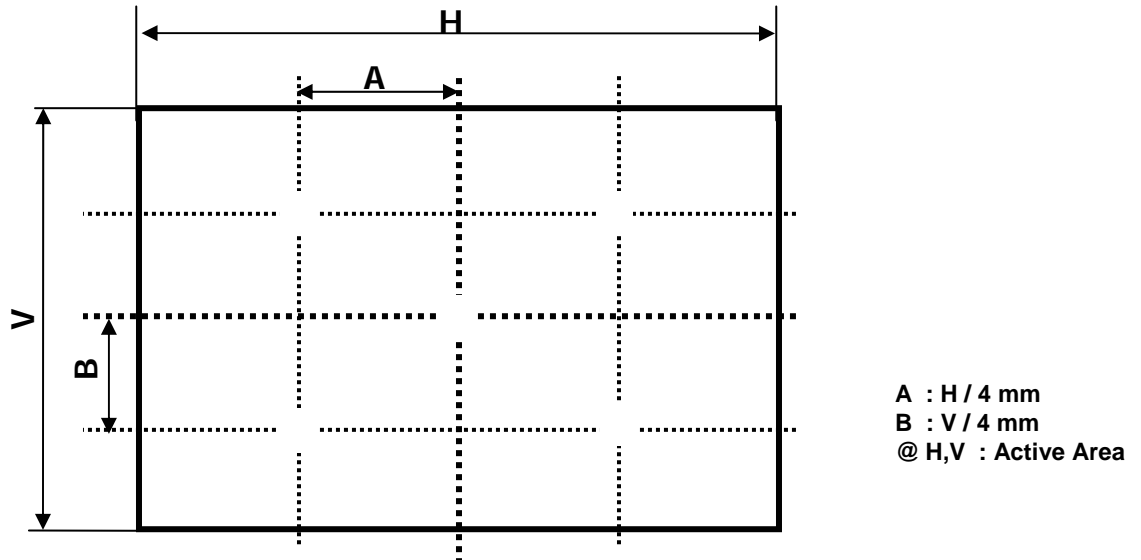

FIG. 2 5 Points for Luminance Measure
n = the Position number(1, 2, 3, 4, 5). For more information, see FIG. 2.
2. Surface luminance are determined after the unit has been 'ON' and 30min after lighting the backlight in a dark environment at $25 \pm 2^\circ\text{C}$. Surface luminance is the luminance value at center 1-point across the LCD surface 50cm from the surface with all pixels displaying white. For more information see the FIG. 2.
For more information, see the FIG. 2.